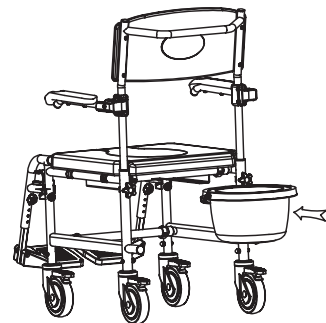

Fig.14
- Insert the bucket from the rear side of the shower and WC chair by sliding it into the slots (Fig.14).